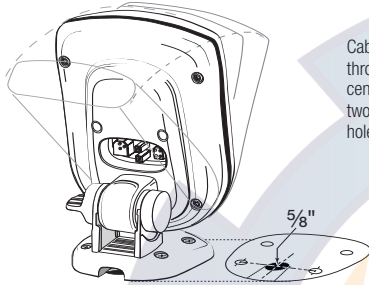

Figure 9
4. Drill a 5/8" hole at the location where the cables pass through the mounting surface. If access is possible underneath mounting surface, drill the hole so the mount base forms a hole cover. See Figure 9 for location of cable hole under the mount.